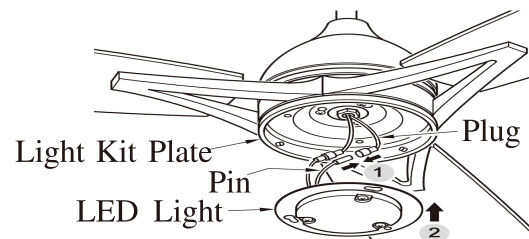

FIG.20
4. Plug together light kit wires from fan to light kit wires from LED light.(See fig.20)